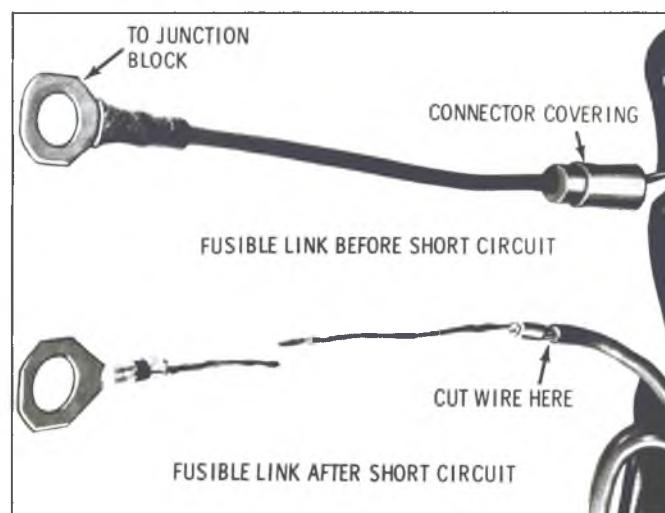

Fig. 53—Fusible Link
FUSIBLE LINK (FIG. 53)
3. Cut harness directly behind connector to remove damaged fusible link (fig. 53).